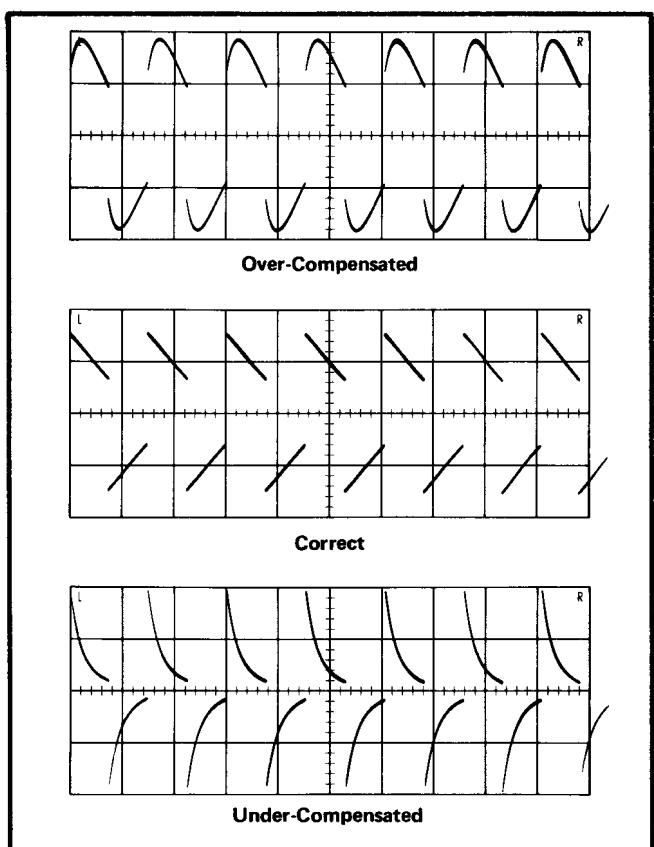

Fig. 5-3. Adjustment of LF COMP.
h. ADJUST—LF COMP (R154) for a straight but tilted top on the displayed square wave (see Fig. 5-3).
- h. ADJUST—LF COMP (R154) for a straight but tilted top on the displayed square wave (similar to Fig. 5-3).